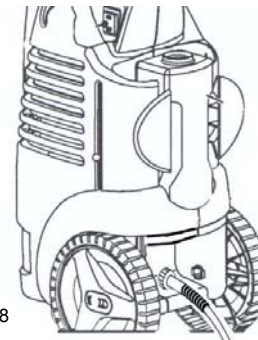

Fig. 8
1. While facing the rear of the unit attach the high pressure hose to the high pressure output connector on the back side of the unit. Twist on tight to avoid leakage. (Fig. 8)